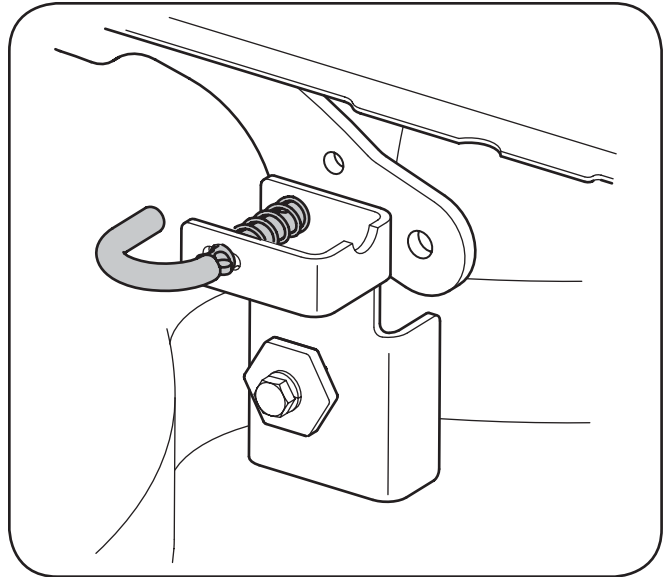

Figure 7-2
5. Looking at the cutting deck from the left side of the tractor, locate the deck release handle. See Fig. 7-2. Pull the deck release handle and carefully release the deck from the deck lift arm.